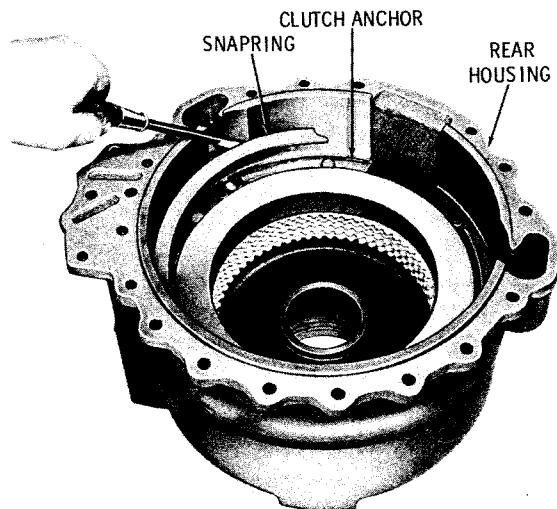

Fig. 5-18. Removing clutch anchor snapping (-1 model)
(4) Using a soft hammer, tap shaft 5 (B, foldout 13) rearward to remove the shaft from the housing. Remove snapping 7 and rear bearing 6 from the shaft, if replacement is necessary.
(5) Remove the internal snapping which retains the high-range clutch anchor assembly (fig. 5-18).